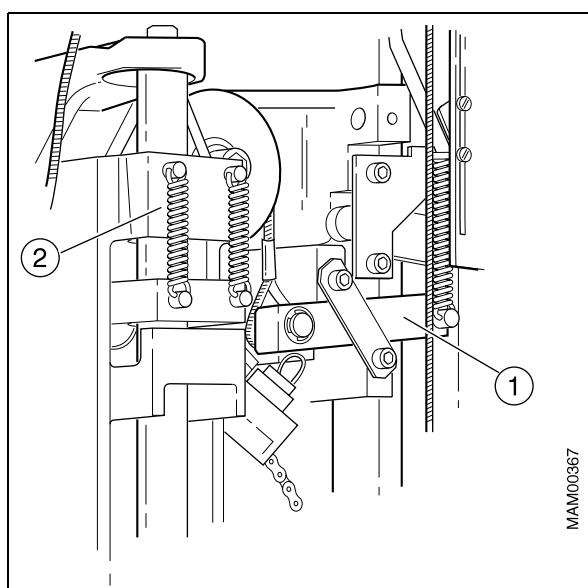

Fig. 1: Safety catch
- Do the safety catch (1/Fig. 1 / p. 17) and rotation safety catch (2/Fig. 1 / p. 17) have any visible damage? Are the springs in good condition?